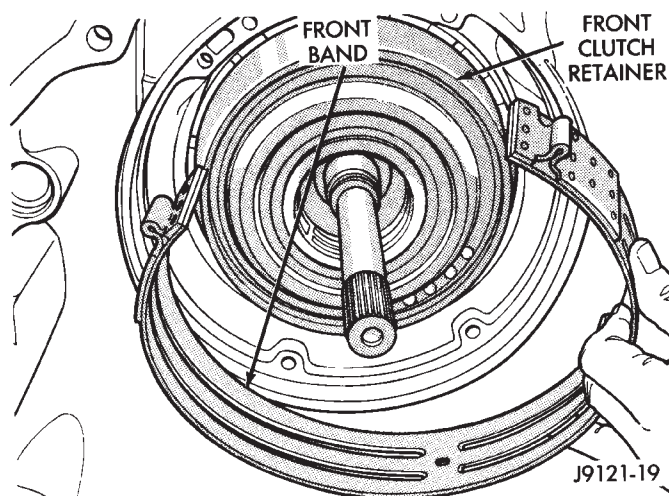

Fig. 23 Front Band Removal—46RH
(23) Squeeze front band together slightly and slide band over front clutch retainer and out of case (Fig. 23).